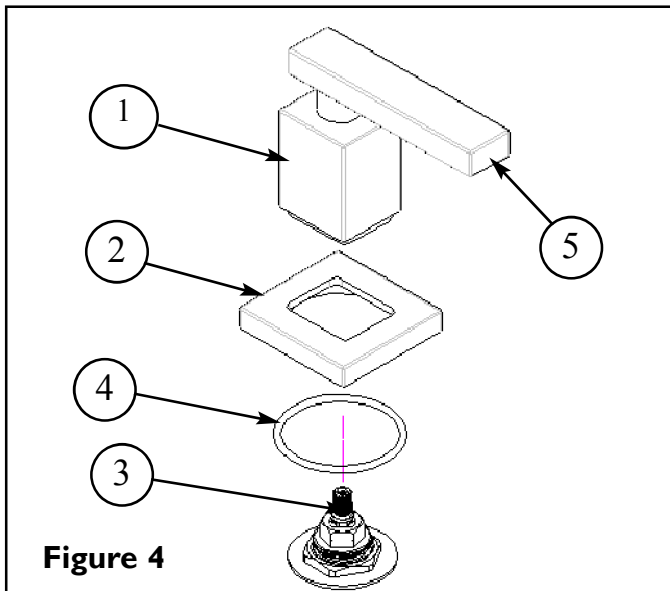
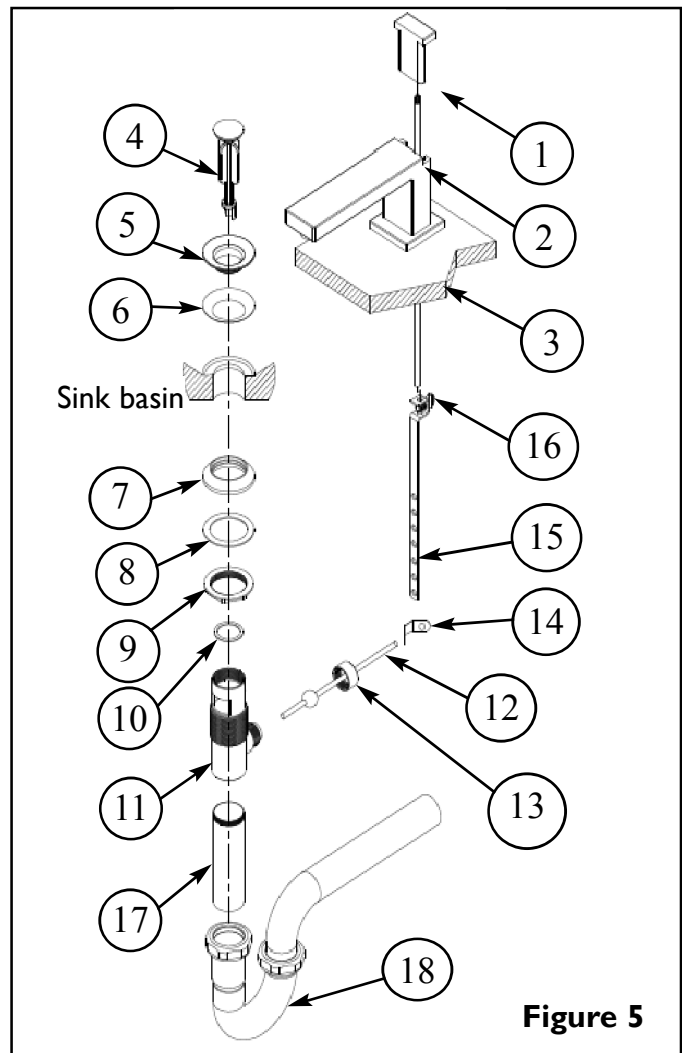

Figure 4
Figure 5
4. Place O-RING (4) and ESCUTCHEON (2) over VALVE STEM (3). Secure handle assembly into place by first engaging the VALVE STEM (3), then position and holding the handle LEVER (5) while rotating the BONNET (1) and ESCUTCHEON (2). Any adjustments for rotational alignment must be made to the valve body, not to the cartridge. **See Figure 4.**
5. Attach POP-UP KNOB (1) onto POP-UP ROD (2) and insert through hole on ESCUTCHEON (3). Place DRAIN FLANGE (5) with FLANGE WASHER (6) in place through sink drain hole.
Note: putty or silicone may be used instead of FLANGE WASHER (6). From underside of sink install RUBBER CONE WASHER (7), FLA WASHER (8), and FLANGE NUT (9) onto DRAIN FLANGE (5). Tighten FLANGE NUT (9) firmly. Place CLEAR WASHER (10) into BODY (11) and tighten onto DRAIN FLANGE (5) aligning ball rod port to rear of sink. Secure BALL ROD (12) into BODY (11) with BALL NUT (13). Apply thread sealant onto threads of TAILPIECE (17) and tighten into BODY (11). Secure TAILPIECE (17) to TRAP DRAIN (18). If necessary trim TAILPIECE (17) for proper fit. Position STRAP (15) onto POP-UP ROD (2) and tighten SCREW (16). Remove one end of CLIP (14) from BALL ROD (12) by squeezing ends together while sliding. Insert BALL ROD (12) into lower holes of STRAP (15) and reassemble CLIP (14). Place STOPPER (4) into DRAIN FLANGE (5) and by twisting stopper attach to BALL ROD (12). Adjust stopper height by repositioning STRAP (15) on the POP-UP ROD (2) and tightening SCREW (16). **See Figure 5.**